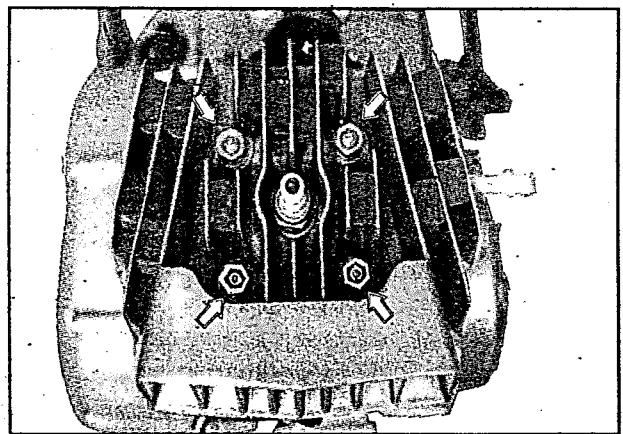

Fig 3.18
- Loosen & remove nuts of cylinder head (fig 3.18)